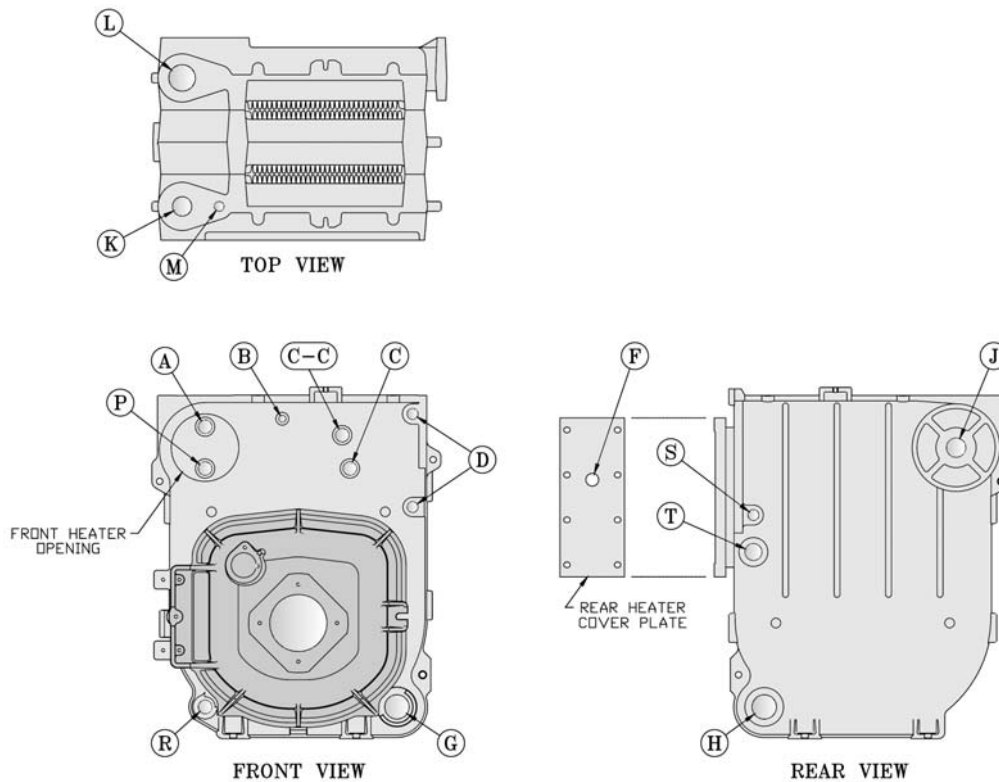

Figure 5: Boiler Tapping Locations and Usage (Knockdown Boilers Only)
D. DRAIN WATER FROM BOILER. Remove gauge, valve and plugs from those tappings to be used. Leave other tappings plugged or bushed according to Figure 5.
H. INSTALL TRIM. The following steam or water trim will be concealed or inaccessible after boiler jacket is installed, see Figure 5 for boiler tapping locations and usage.